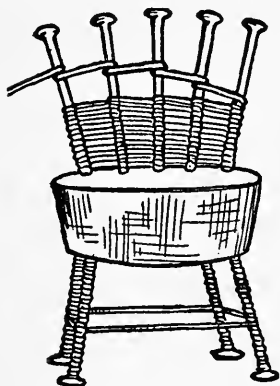

FIG. 403.—Chair.
**A Chair**, such as shown in Fig. 403, find a flat cork and stick four pins in one side for legs, and five pins fairly close together in the other side for the chair-back (see illustration). When the pins have been properly placed, take some worsted and wind it around each of the four legs, crossing from one to another as shown in the drawing, thus forming the chair-rounds. Also weave the worsted in and out around the pins forming the chair-back as in the drawing, so that